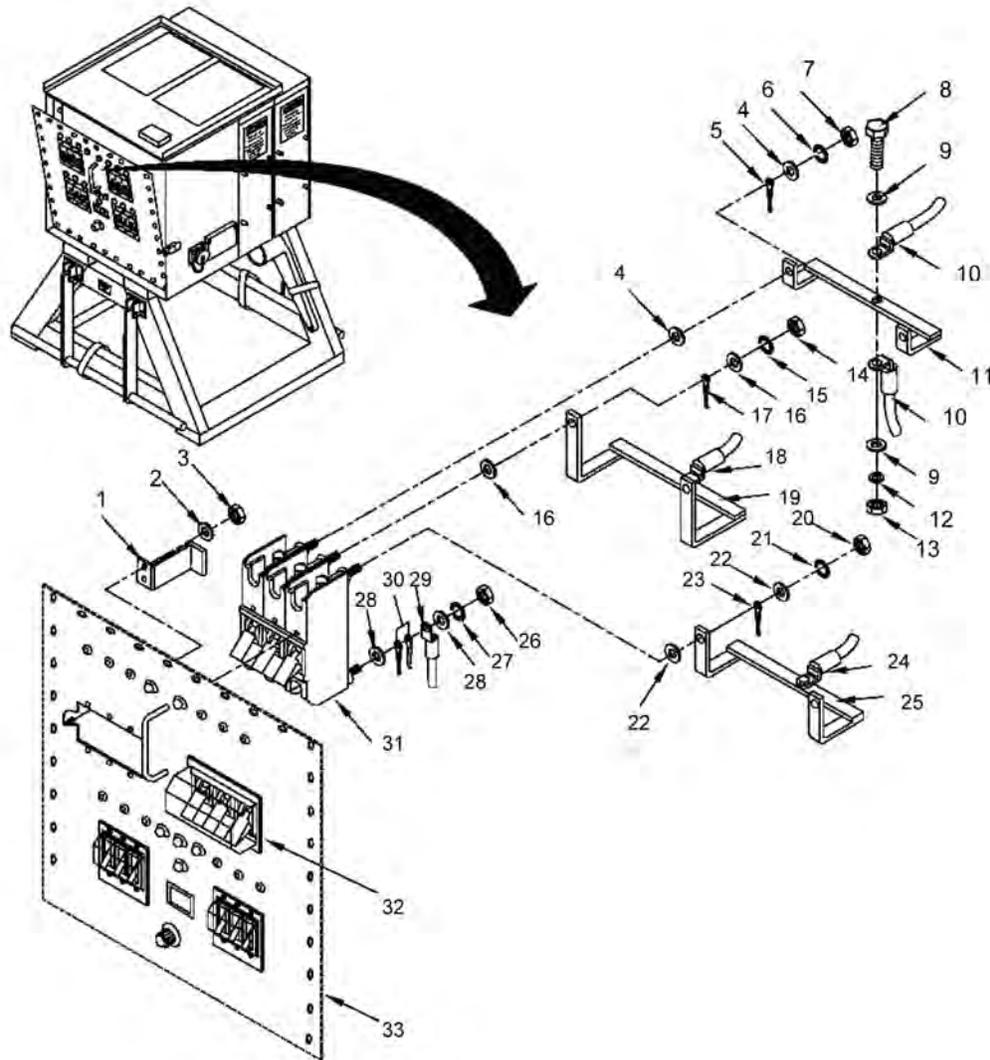

Figure 1. Circuit Breaker CB1 and CB2 (PP-8440A Only).
11. Position two retainer brackets (Figure 1, Item 1) on studs and secure with four flat washers (Figure 1, Item 2) and four self-locking nuts (Figure 1, Item 3).
13. Connect three wires (Figure 1, Item 29) to rear of circuit breaker (Figure 1, Item 31 or 32) by installing six flat washers (Figure 1, Item 28), three locking star washers (Figure 1, Item 27), six indicator wires (Figure 1, Item 30) and three nuts (Figure 1, Item 26). Remove all tags.
14. Position buss bars C1 (Figure 1, Item 25), B1 (Figure 1, Item 19), and A1 (Figure 1, Item 11) on circuit breaker lugs before securing buss bars to circuit breakers.
15. Connect buss bar C1 (Figure 1, Item 25) to circuit breaker/CB1 (Figure 1, Item 31) and circuit breaker/CB2 (Figure 1, Item 32) by installing four flat washers (Figure 1, Item 22), two indicator wires (Figure 1, Item 23), two locking star washers (Figure 1, Item 21) and two nuts (Figure 1, Item 20). Ensure wire (Figure 1, Item 24) on rear of buss bar (Figure 1, Item 25) is securely attached.
16. Connect buss bar B1 (Figure 1, Item 19) to circuit breaker/CB1 (Figure 1, Item 31) and circuit breaker/CB2 (Figure 1, Item 32) by installing four flat washers (Figure 1, Item 16), two indicator wires (Figure 1, Item 17), two locking star washers (Figure 1, Item 15) and two nuts (Figure 1, Item 14). Ensure wire (18) on rear of buss bar (Figure 1, Item 19) is securely attached.
17. Connect buss bar A1 (Figure 1, Item 11) to circuit breaker/CB1 (Figure 1, Item 31) and circuit breaker/CB2 (Figure 1, Item 32) by installing four flat washers (Figure 1, Item 4), two indicator wires (Figure 1, Item 5), two locking star washers (Figure 1, Item 6) and two nuts (Figure 1, Item 7). Ensure wire (Figure 1, Item 10) on rear of buss bar (Figure 1, Item 11) is securely attached. Ensure all connections correspond to correct power phase. Remove all tags.
18. Perform procedures in WP 0027 to secure circuit breaker panel (Figure 1, Item 33).